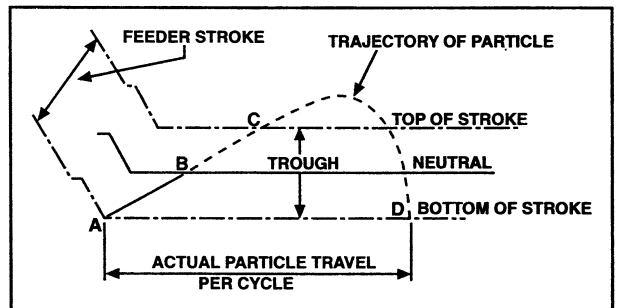

FIGURE 3: MATERIAL FLOW
The BF-4-ALF/SLF is an electromagnetic feeder that uses current to energize the electromagnet (coil) and power the feeder. Rectified Alternating Current (AC) is applied to the magnet assembly of the drive, pulling the armature and entire trough assembly down and back toward the drive during this portion of the stroke. When the power is cycled off, the springs return the trough assembly and drive back to the “at rest” position. The trough assembly moves up and forward through this portion of the stroke. Refer to Figure 3 for the trough description of how material conveys on the feeder.
Figure 3 illustrates material flow along the trough surface. Each cycle moves the material forward and upward, and further along toward the discharge. The rate feed is controlled by the intensity of the magnetic pull, which is varied by the control.